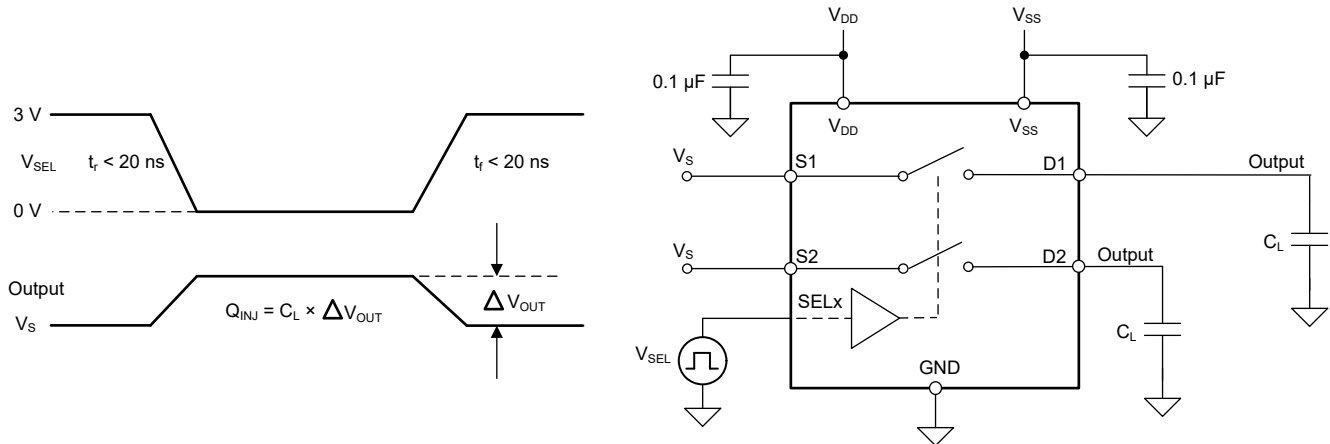

图 6-7. Charge-Injection Measurement Setup
The TMUX622x has a transmission-gate topology. Any mismatch in capacitance between the NMOS and PMOS transistors results in a charge injected into the drain or source during the falling or rising edge of the gate signal. The amount of charge injected into the source or drain of the device is known as charge injection, and is denoted by the symbol  $Q_C$ . 图 6-7 shows the setup used to measure charge injection from source (Sx) to drain (D).